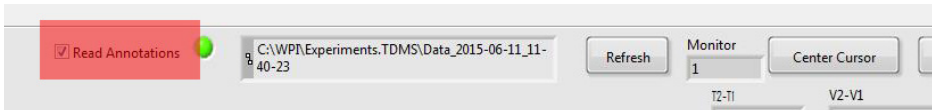

Fig. 29—Select the Read Annotations checkbox to display your notes on the graph.
3. The annotations display in the Analysis window when you select the **Read Annotations** checkbox in the upper right corner of the Analysis window (Fig. 29).